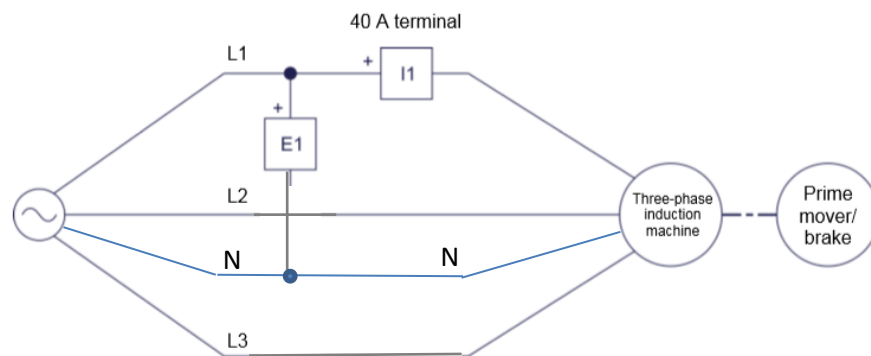

Fig. 3: Induction machine coupled to prime mover/break
- 2) Make sure the power supply is turned off. Then connect the motor to the 3-phase power supply and prime mover as shown in Fig. 3 below.